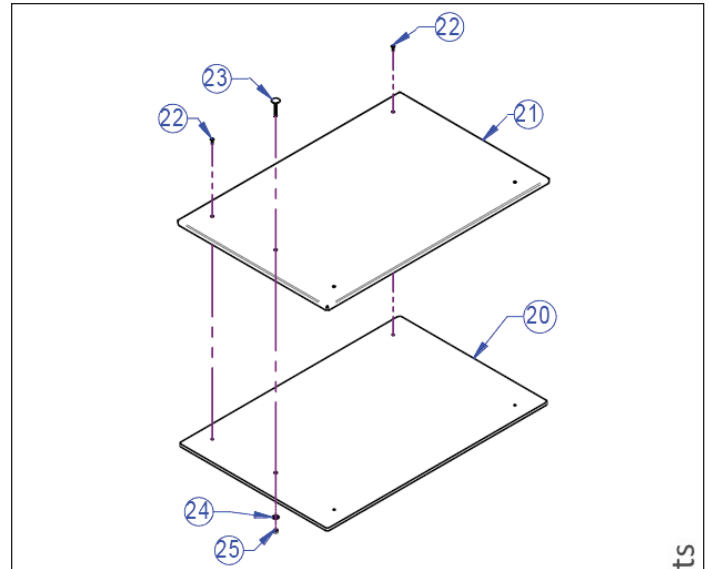

Figure 8-4. Cargo Deck
1. If plywood deck is damaged and requires replacement, remove the nut (25), washer (24) and lifting screw (23). Remove four wood screws (22). See Figure 8-4.
2. Attach new plywood deck to deck plate with four wood screws. Install lifting screw (23), washer (24) and nut (25).